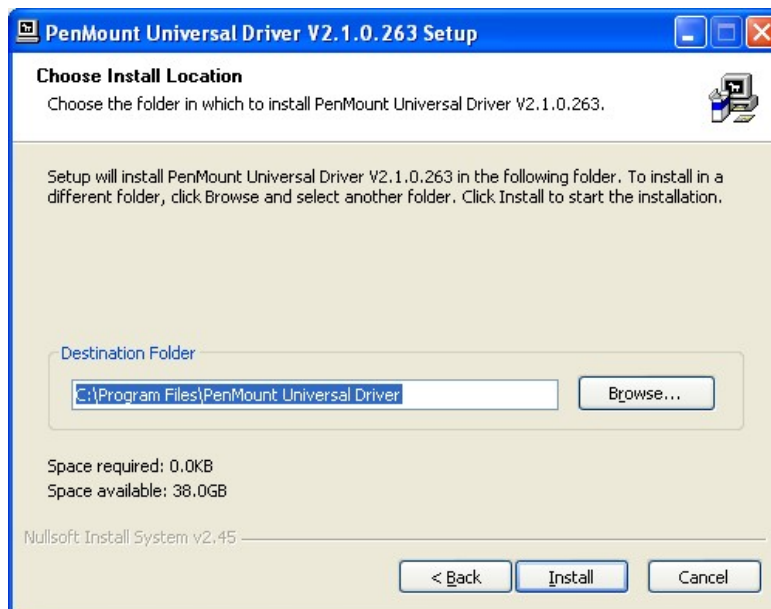

Figure 5-24: Touch Screen Driver Choose Install Location
Step 8: Browse for an install location or use the one suggested (**Figure 5-24**).